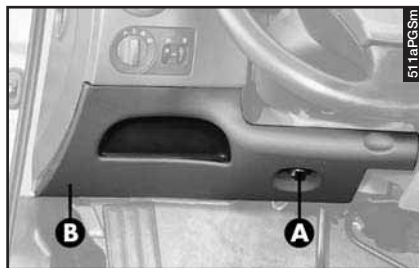

fig. 84
Access to it is gained slackening the knob (A-fig. 84) and lowering the panel (B).